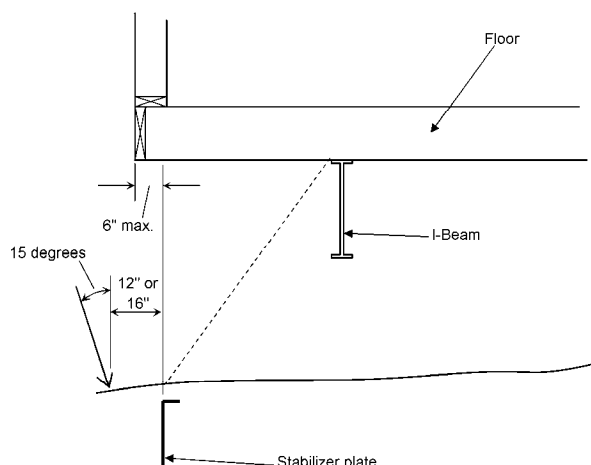

Figure 74. Determining anchor and stabilizer plate location
1. **Locate anchor.** Select a location for the anchor under the home but within six inches of the exterior wall (**Figure 74**). Avoid locations that will interfere with skirting.